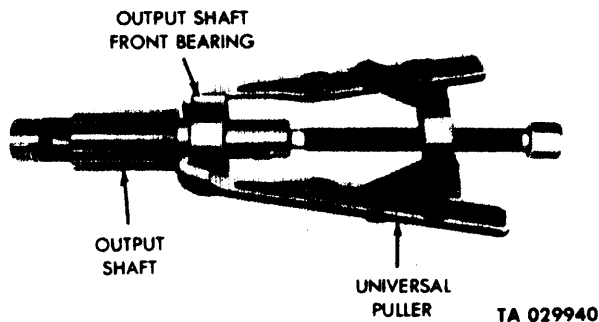

Figure 5-14. Removal of Output Shaft Front Bearing.
*j. Output Shaft Front Bearing.* Using a universal or suitable puller, pull the output shaft front bearing from the shaft. (See fig. 5-14.)
- b. Output shaft front bearing. (See fig. 5-14.)